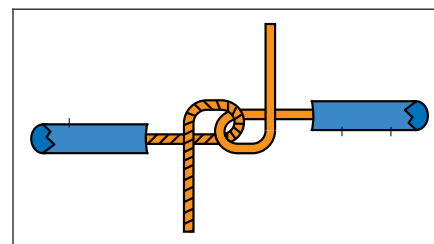

Figure 3 Wrap in Opposite Direction
6. Securing one wire firmly, begin the wrap motion of the opposite wire until one turn is completed. (See Figure 3.)